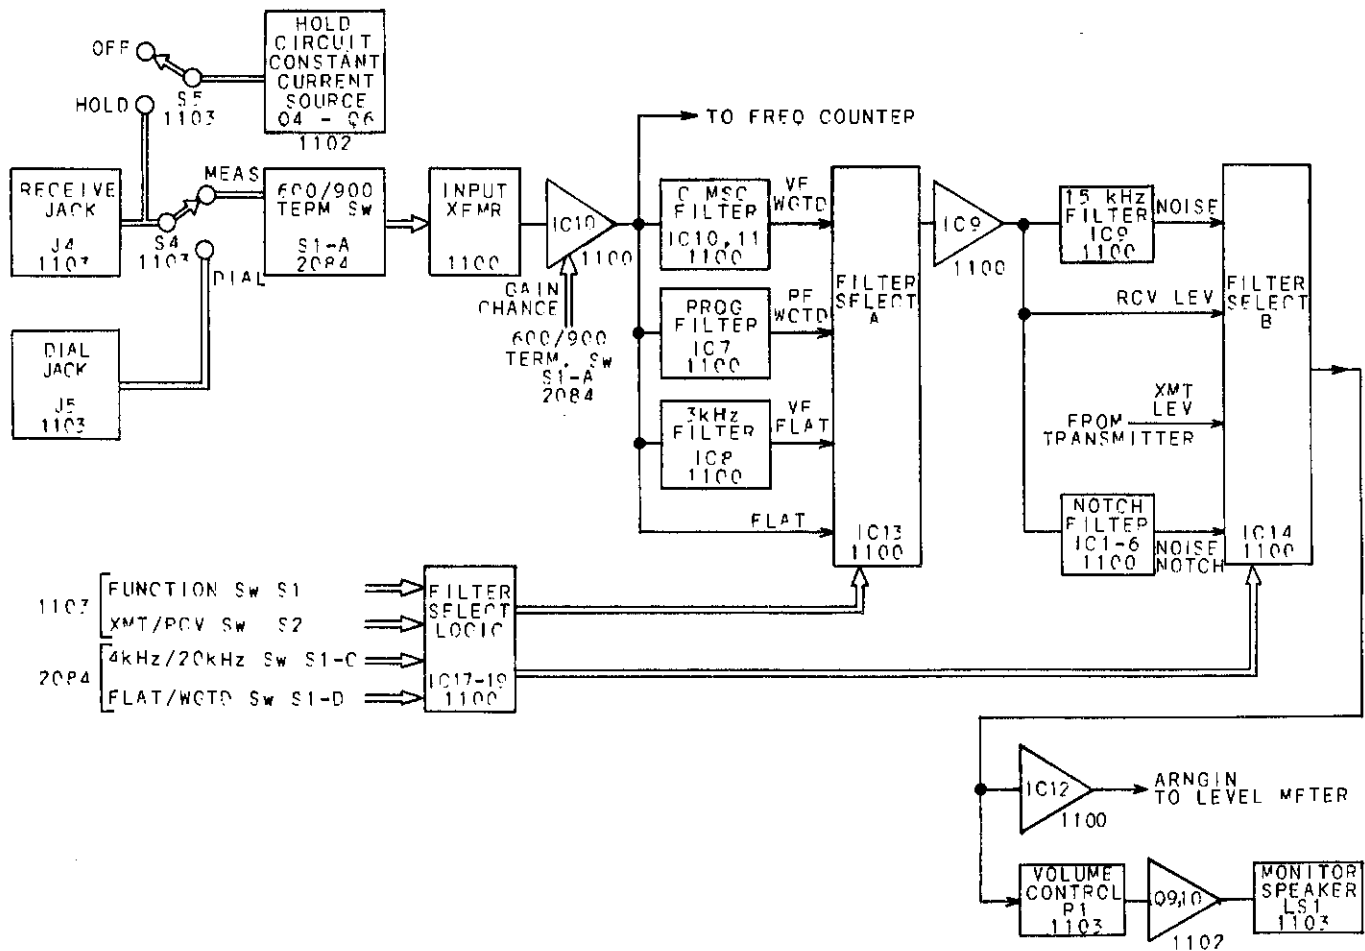

Fig. 5
C. Receiver (Figure 5)
3.15 Detectors: The input to the Level Meter is derived from Receiver Filter Select B (Figure 5), and consists